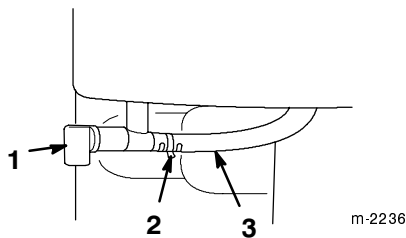

Figure 5
- **Fuel Shutoff Valve** (Fig. 5)—Close the valve by rotating it clockwise. Open the valve by rotating it counterclockwise. Close the valve when you do not use the snowthrower.
3. Open the fuel shutoff valve below the fuel tank (Fig. 5).